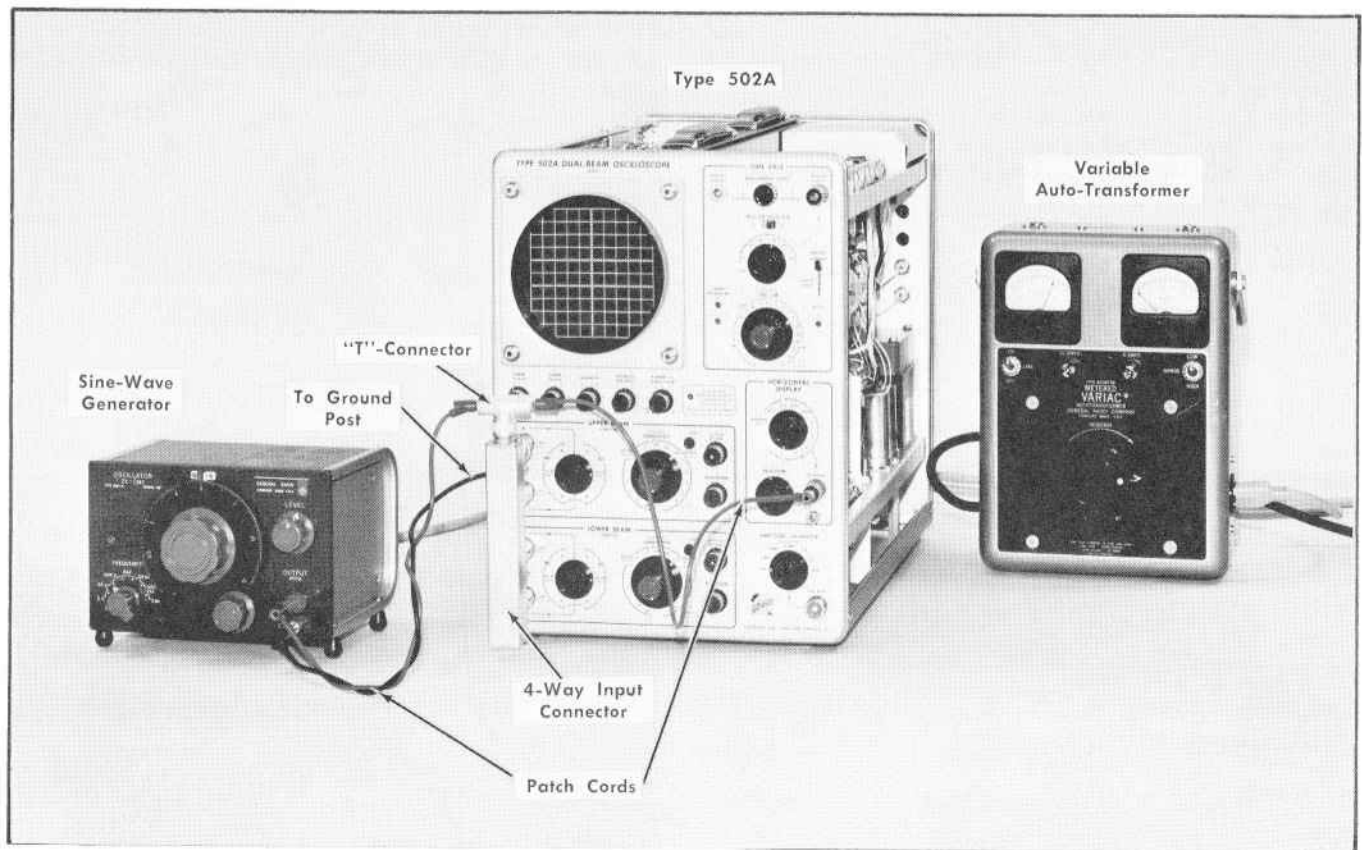

Fig. 6-25. Test equipment setup for adjusting and checking common-mode balance (step 29 and 30).
- Set up the equipment as shown in Fig. 6-25.